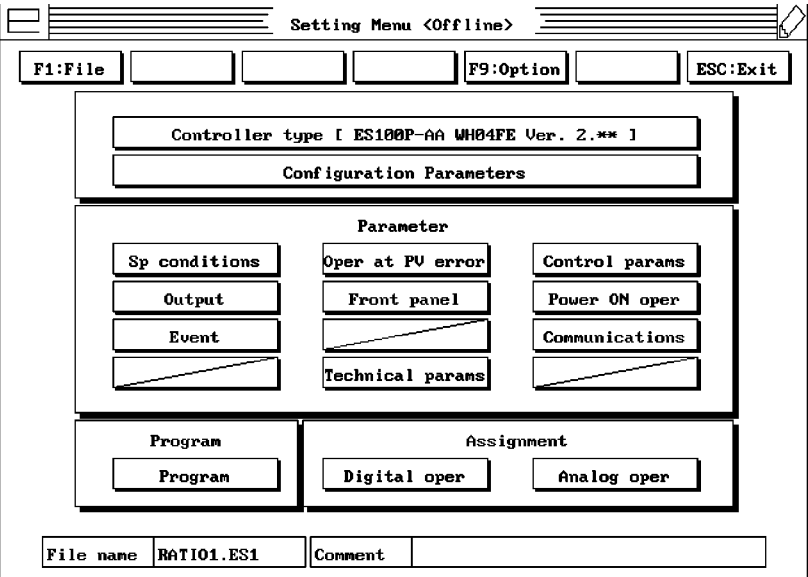

Figure 9
1. From the **Setting menu <offline>** menu, select **Analog Oper** (Figure 9).